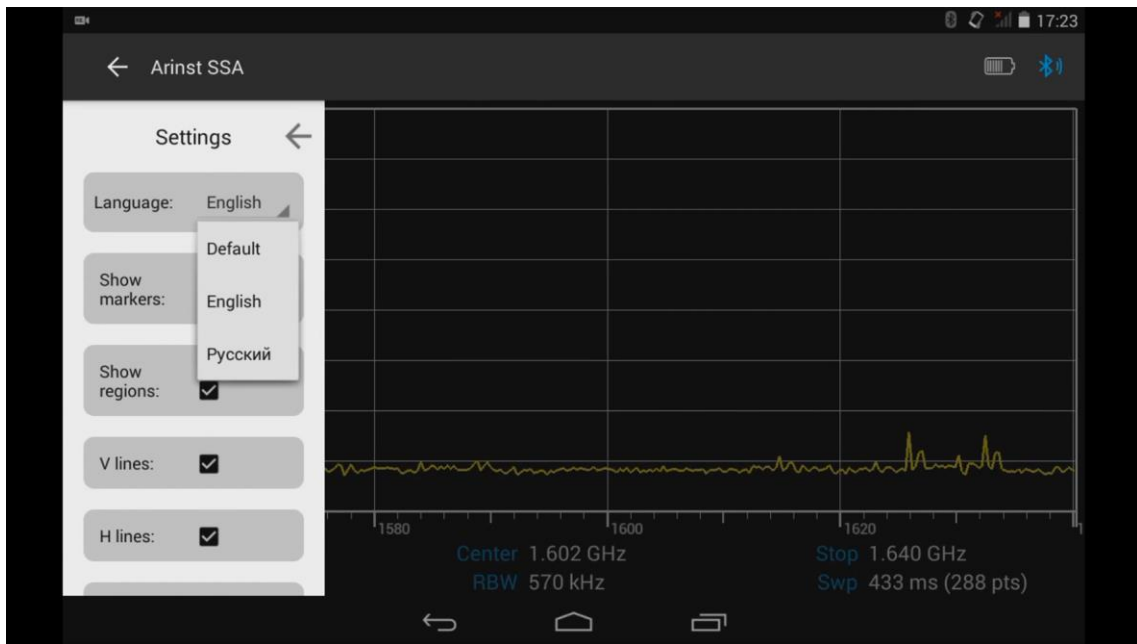

Figure 63 – Selecting the language of the control program interface
8.10.2. To set the interface language, click on the **Language** button, and in the appeared window select the interface language of the control program, figure 63.